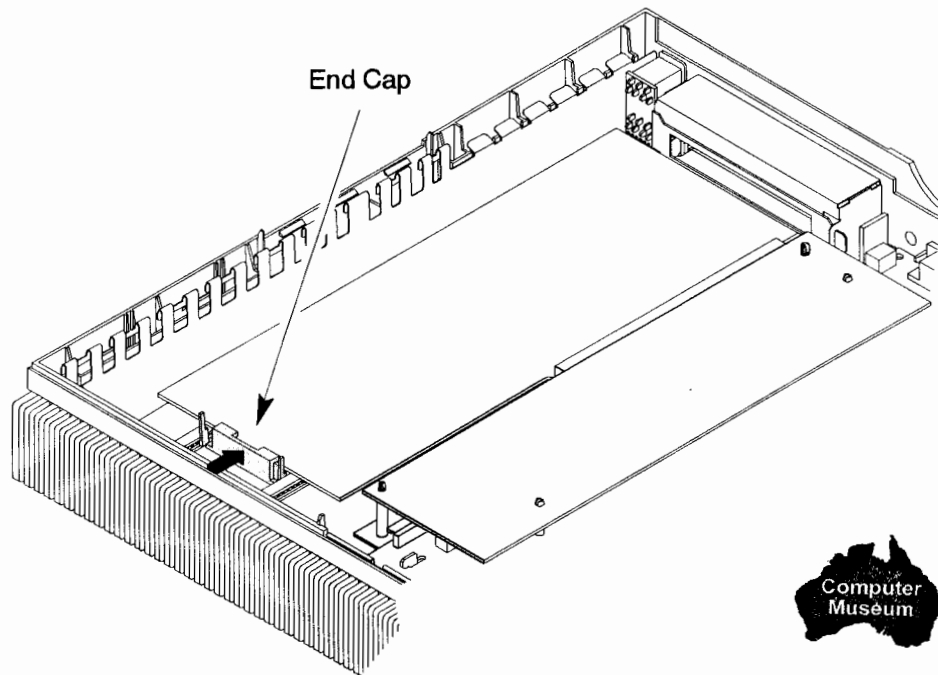

Figure B-53. Securing the EISA Board with the End Cap
9. Pinch the sides of the end cap and slide it to the EISA board (see Figure B-53). Fit the edge of the EISA board into the slot of the end cap to secure the board.